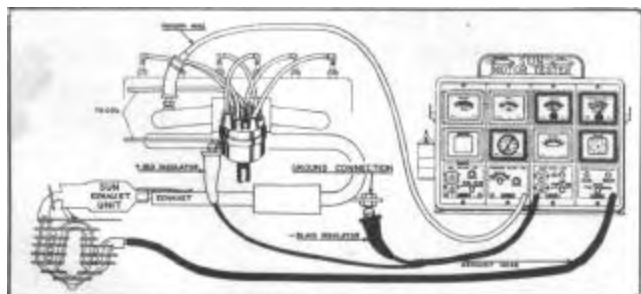

FIGURE 41
3. Connect the Vacuum Pressure Gauge hose, Tachometer-Dwell leads and exhaust unit of the Combustion Tester as shown in Figure 41.